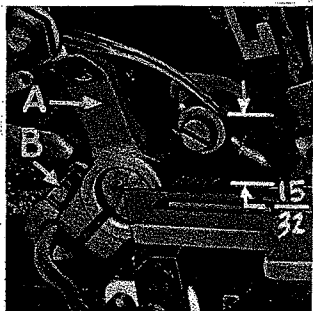

Fig. 4
With throat plate in position, needles should center in the front end of needle slot. When needles are at high position, the needle points should be set 15/32 inch above throat plate (Fig. 4) for 39500 AC.
For 39500 AB, 39500 AE the needle points should be set $7/16$ inch above the throat plate. Move needle driving arm (A, Fig. 4) by loosening clamp screw (B). Remove throat plate.